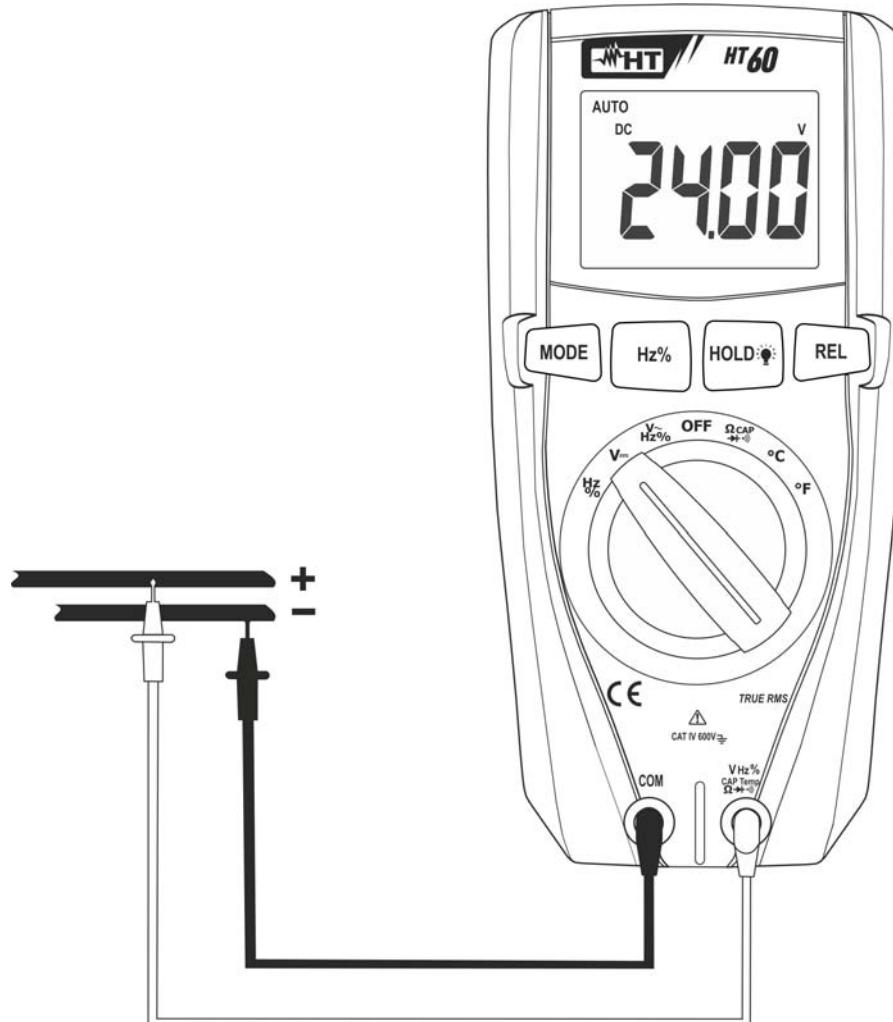

Fig. 2: Use of the instrument for DC voltage measurement
3. Position the red lead and the black lead respectively in the spots with positive and negative potential of the circuit to be measured (see Fig. 2). The display shows the value of voltage.
5. When symbol "**-**" appears on the instrument's display, it means that voltage has the opposite direction with respect to the connection in Fig. 2.